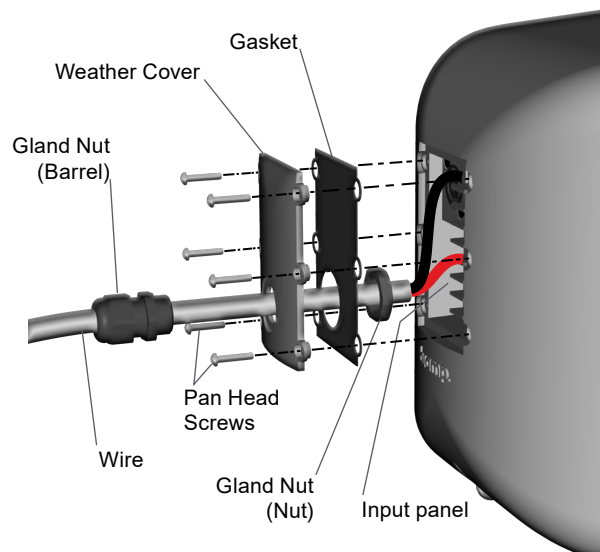

Figure 6. Weather cover attachment
7. Secure the gland nut to the weather cover. Align the weather cover with the holes and attach using the provided pan head screws. See Figure 6.